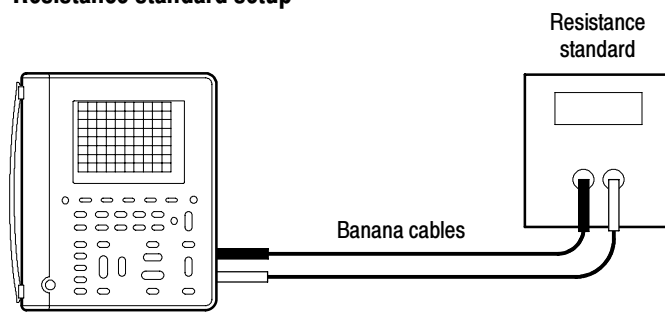

Figure 9: Meter adjustment setups
Three equipment setups, shown in Figure 9, are required to complete this adjustment procedure. For each step in the procedure, the specific input signal required by that step is described in the TekScope instrument display. Refer to these diagrams as necessary during the procedure. Table 5 summarizes the steps in the procedure and the signal requirement for each step.
2. Connect the DC voltage source to the instrument as shown in the DC voltage setup of Figure 9.